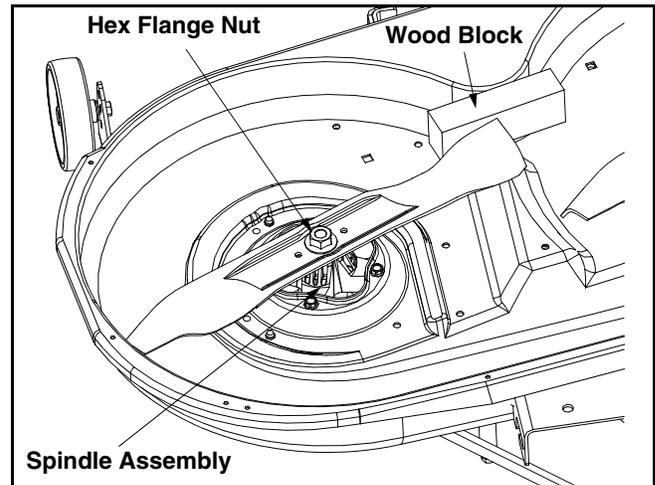

Figure 18
- Place a block of wood between the center deck housing baffle and the cutting blade to act as a stabilizer. See Figure 18.
- Use a 15/16" wrench to remove the hex flange nut that secures the blade to the spindle assembly. See Figure 18.